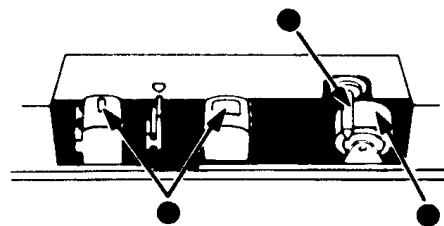

Fig. 9
1. **Cleaning the heads, pinch roller and capstan (Fig. 9).**